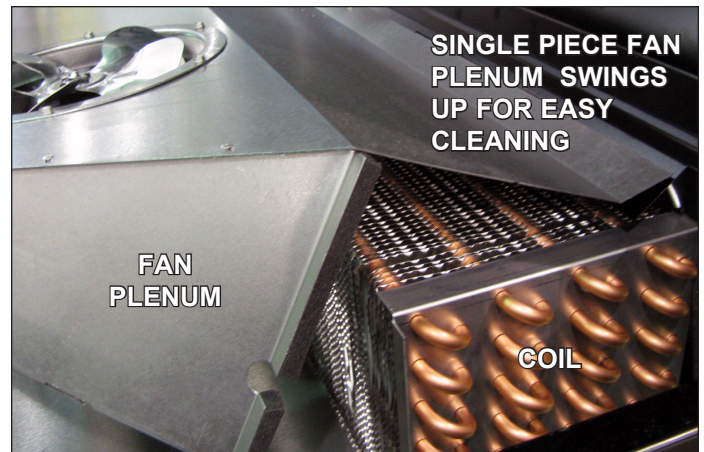

Fig. 19 Single-piece fan plenum and coil cover
- Lift the fan plenum to gain access to the coil for cleaning and maintenance (Fig. 19).